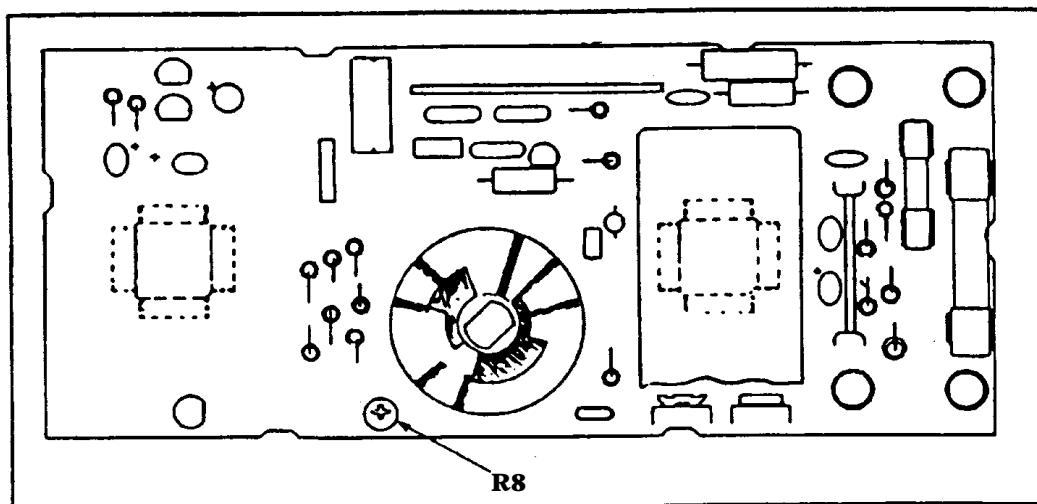

Figure 1. Dc voltage - adjustment location.
- (1) Set function switch to V---.
- (2) Set calibrator for a 3 V dc output.
- (3) Adjust R8 (fig. 1) for a TI indication of 3.000 V dc.
- (4) Set calibrator for an output of .3000 V dc.
- (5) Set function switch to 300 mV; perform **a(2)** through (6) above.